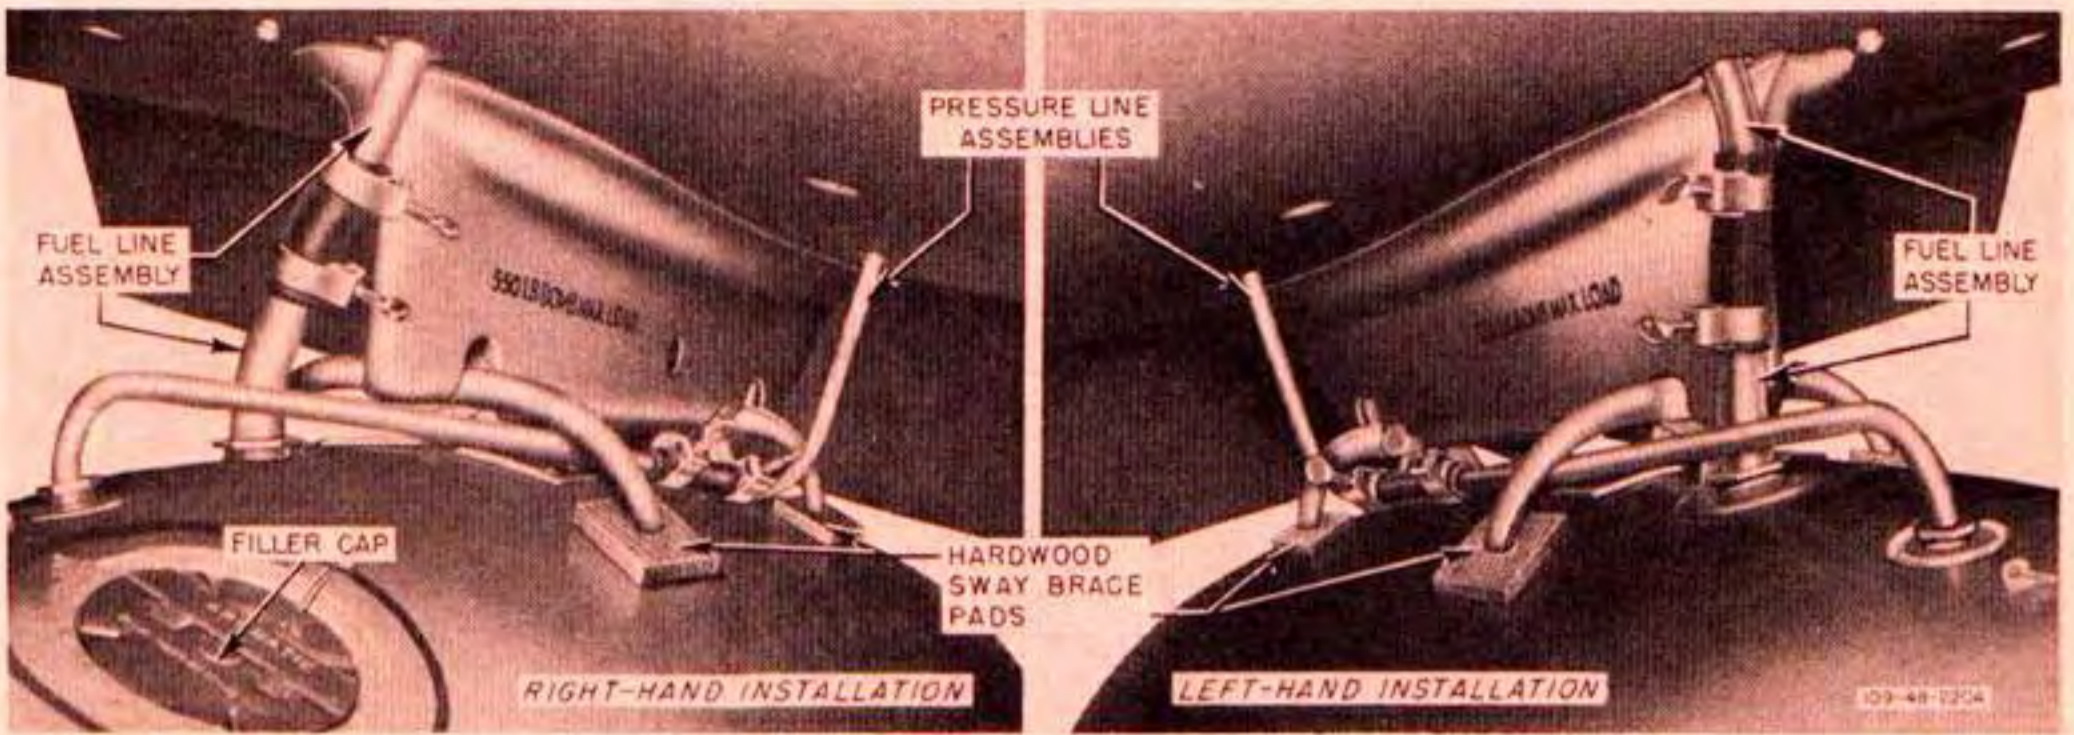

Figure 257—75-gallon Tank Installation
3. Install lines to tank, and position lines for ready connection to their respective seal rings. Do not tighten gland nuts at this time. (See figures 257 and 258 for early airplanes, and figure 258A for late airplanes.)
(b) INSTALLATION.—For the 75-gallon tank installation, see figures 257 and 259. For 110-gallon tank installation, the 75-gallon tank installation is applicable. (See figure 259.) However, the 110-gallon tank will be installed only when the identical pad-type sway braces (NA 109-63101) are used.